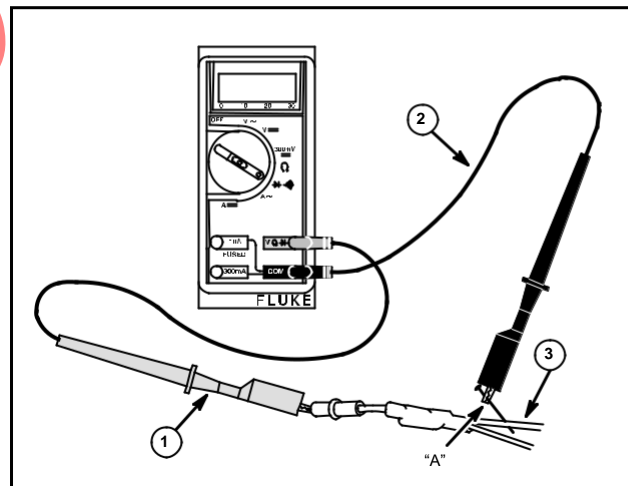

Fig. 27
4. **Charging Circuit (Red Wire B+)** Attach BLACK test lead (2) clip to point "A," Fig. 27. (It may be necessary to pierce red wire (3) with a pin as shown.) Insert RED test lead (1) probe into harness connector.